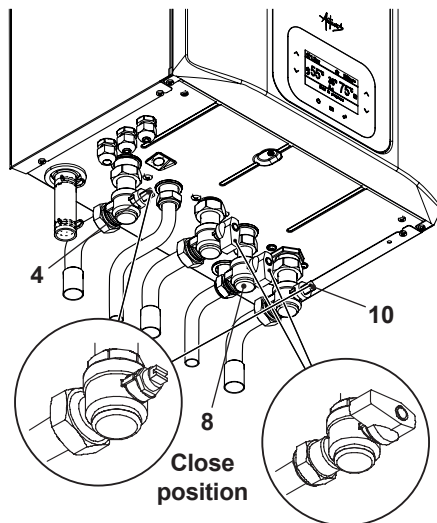

Fig. 10.10
- Turn off the D.C.W. inlet isolating valve 8 (Fig. 10.10).
- Close the C.H. isolating valves (4 and 10 in Fig. 10.10).